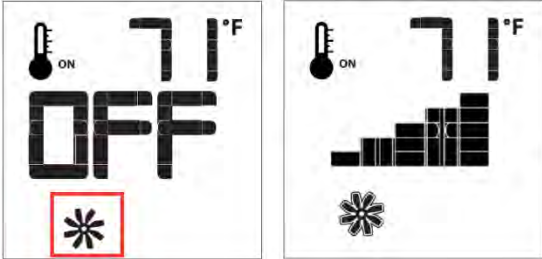

Figure 13: Fan Control
If the fireplace is equipped with a hot air circulating fan, the speed of the fan can be controlled by the Proflame system. The fan speed can be adjusted through six (6) speeds. To activate this function use the Mode Key (Fig.1) to index to the fan control icon (Fig. 13). Use the Up/Down Arrow Keys (Fig.1) to turn on, off or adjust the fan speed (Fig. 13). A single “beep” will confirm reception of the command.